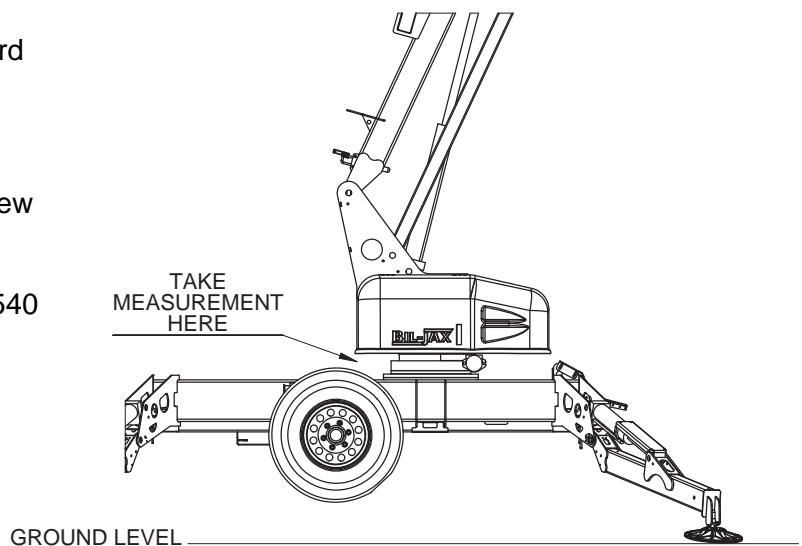

Figure 4-8. Platform Position after Rotation
- Rotate the platform 180° and re-record the measurement. Refer to Figure 4-8.